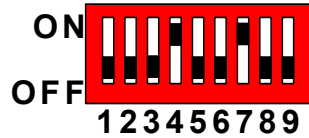

FIGURE 1. INITIAL DIP SWITCH SETTINGS
**Step 1:** Switch on bit 4 and bit 7 of the Dip-switch. Leave all other bits off; see Figure 1.